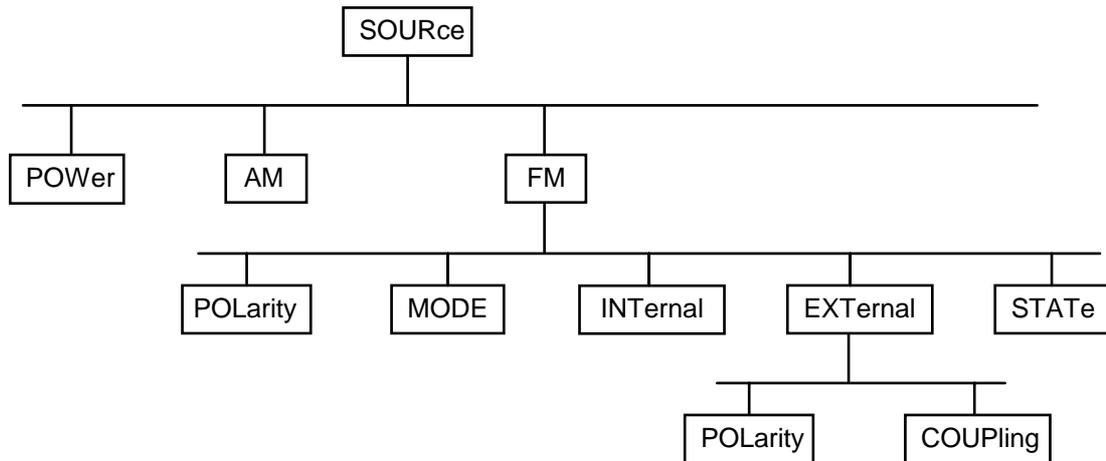

Fig. 3-1 Tree structure of the SCPI command systems using the SOURce system by way of example
SCPI (Standard Commands for Programmable Instruments) describes a standard command set for programming instruments, irrespective of the type of instrument or manufacturer. The goal of the SCPI consortium is to standardize the device-specific commands to a large extent. For this purpose, a model was developed which defines the same functions inside a device or for different devices. Command systems were generated which are assigned to these functions. Thus it is possible to address the same functions with identical commands. The command systems are of a hierarchical structure. Fig. 3-1 illustrates this tree structure using a section of command system SOURCE, which operates the signal sources of the devices. The other examples concerning syntax and structure of the commands are derived from this command system.
**Hierarchy:** Device-specific commands are of hierarchical structure (see Fig. 3-1). The different levels are represented by combined headers. Headers of the highest level (root level) have only one key word. This key word denotes a complete command system.
If the successive commands belong to the same system, having one or several levels in common, the command line can be abbreviated. To this end, the second command after the semicolon starts with the level that lies below the common levels (see also Fig. 3-1). The colon following the semicolon must be omitted in this case.